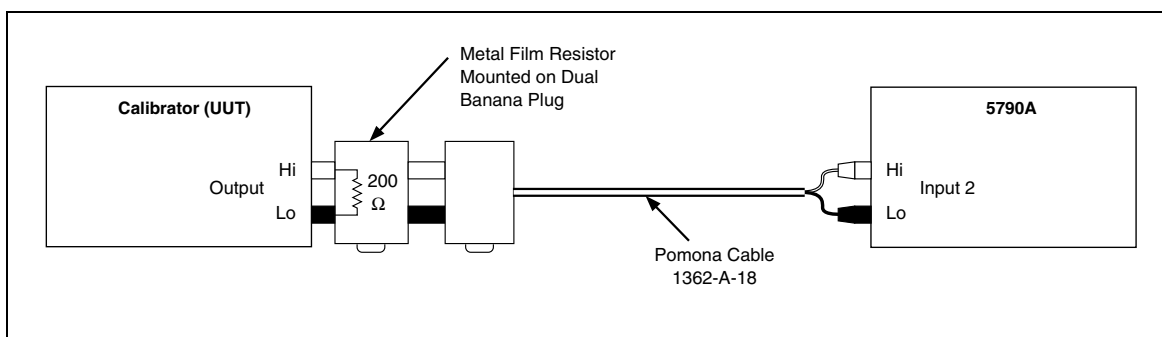

Figure 3-13. Alternating Current Test Setup 2 mA and 200 μ A
1. Connect the equipment as shown in Figure 3-13.